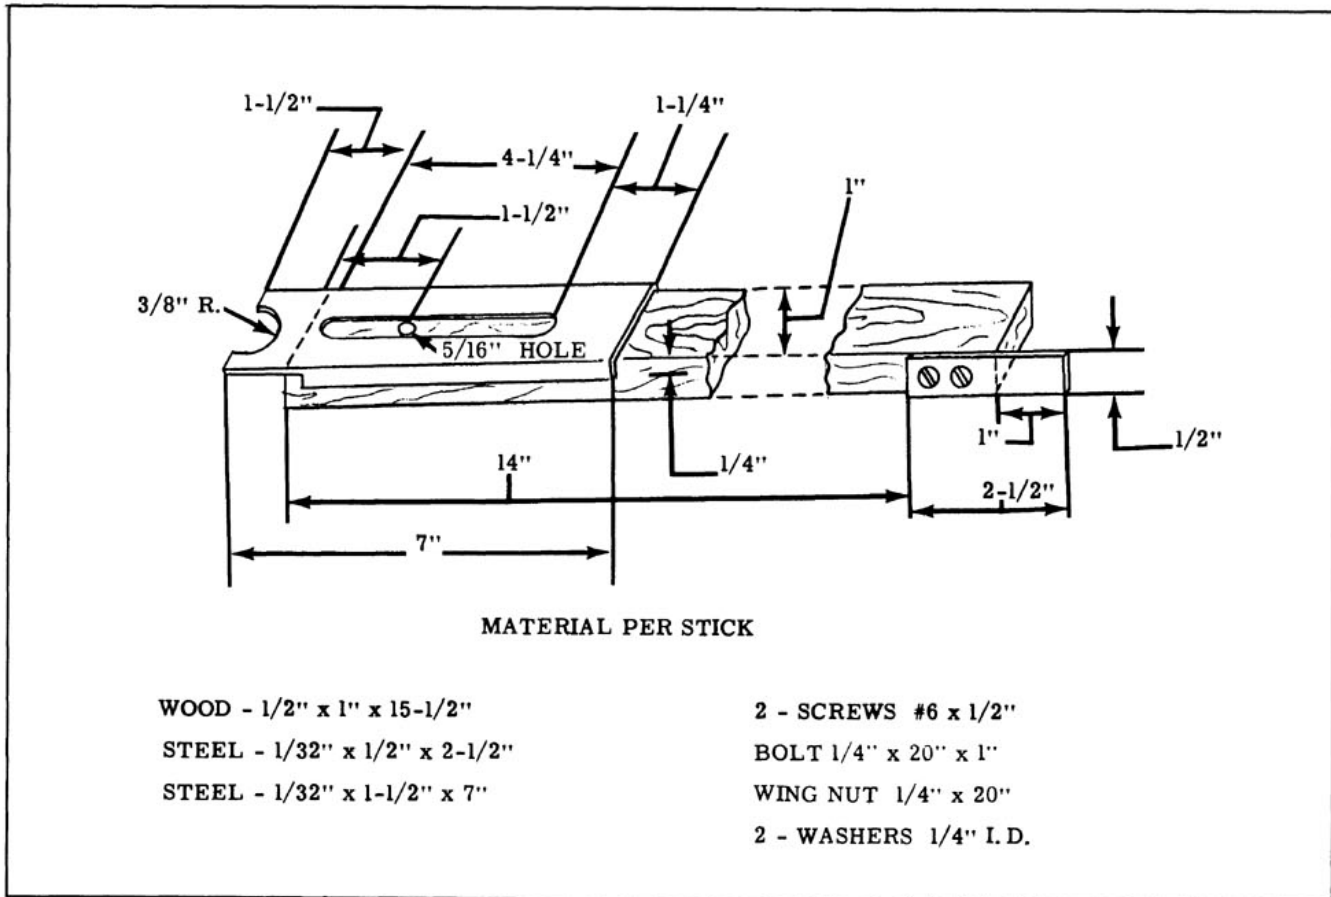

Fig. 16-132 Spacer Stick Dimensions
15. Spacer stick may be fabricated as shown in Fig. 16-132.